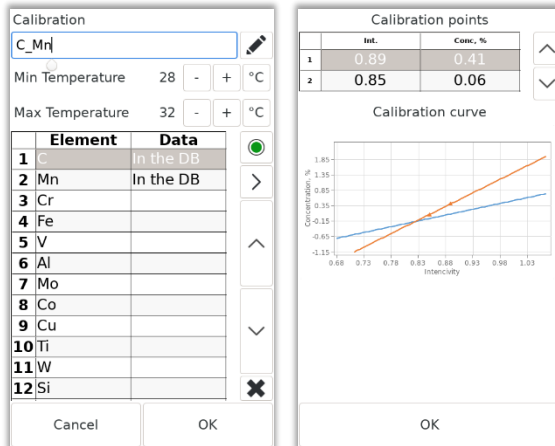

Figure 32 Changing the calibration parameters
- The Calibration Settings dialog box allows you to change the calibration name, minimum and maximum temperature for automatic calibration selection (Figure 32).
- If calibration data already exist for the chemical element, the element string contains the entry "In the DB". The calibration points and the calibration curve can be viewed by clicking on the calibration view button for the element (Figure 32). To exit the window of the calibration curve view, click "OK".